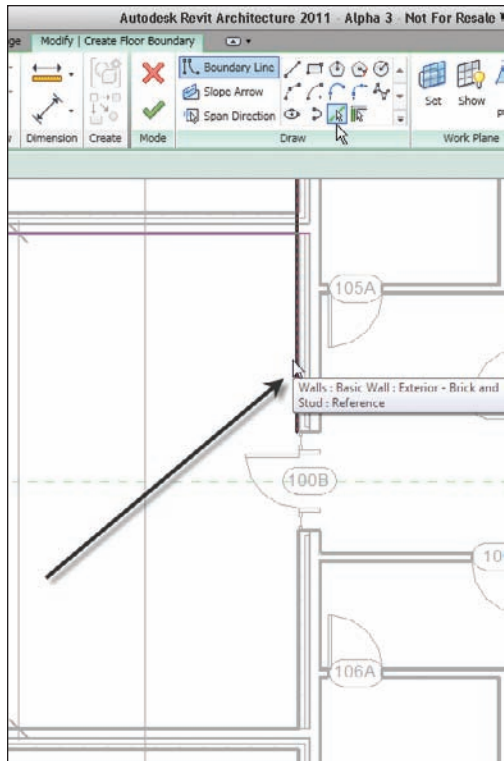

FIGURE 6.14 Picking the face of the east wall. The line will run past the corridor. That's OK. You will trim it in a moment.
6. With the Line button selected, select the Pick Lines button on the Draw panel, as shown in Figure 6.14.
7. Pick the face of the east wall as shown in Figure 6.14.